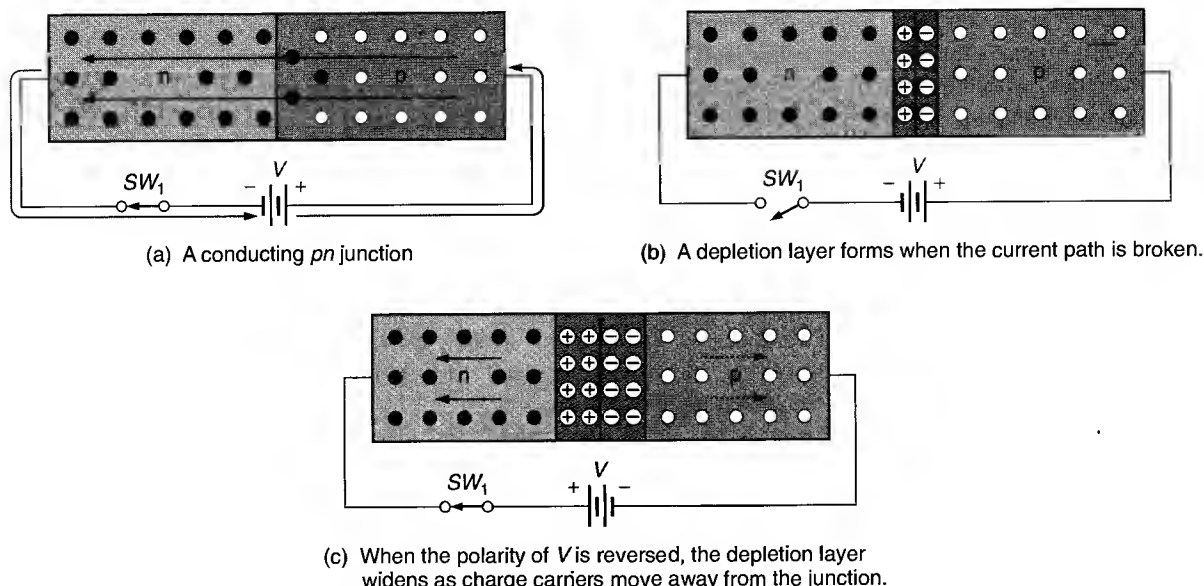

FIGURE 1.16 The effects of reverse bias.
A pn junction is *reverse biased* when the applied potential causes the n -type material to be more *positive* than the p -type material. When a pn junction is reverse biased, the depletion layer becomes wider, and junction current is reduced to almost zero. Reverse bias and its effects are illustrated in Figure 1.16. Figure 1.16a shows a junction that is forward biased. As you have already been shown, the junction is allowing current to pass with little opposition. If the biasing potential returns to zero, the depletion layer re-forms as electrons diffuse across the junction. This is illustrated in Figure 1.16b.
Figure 1.16 helps to demonstrate another point about reverse bias. During the time that the depletion layer is forming and growing, there is *still* majority carrier current in both materials. This *diffusion current* lasts only as long as it takes the depletion layer to reach its maximum width. Diffusion current is undesirable in high-frequency circuits, so special diodes have been developed for these type of circuits. (Some of these diodes are discussed in Chapter 5.)
- a. Reverse bias is achieved when the applied potential causes the *n*-type material to be more *positive* than the *p*-type material (see Figures 1.16 and 1.17).